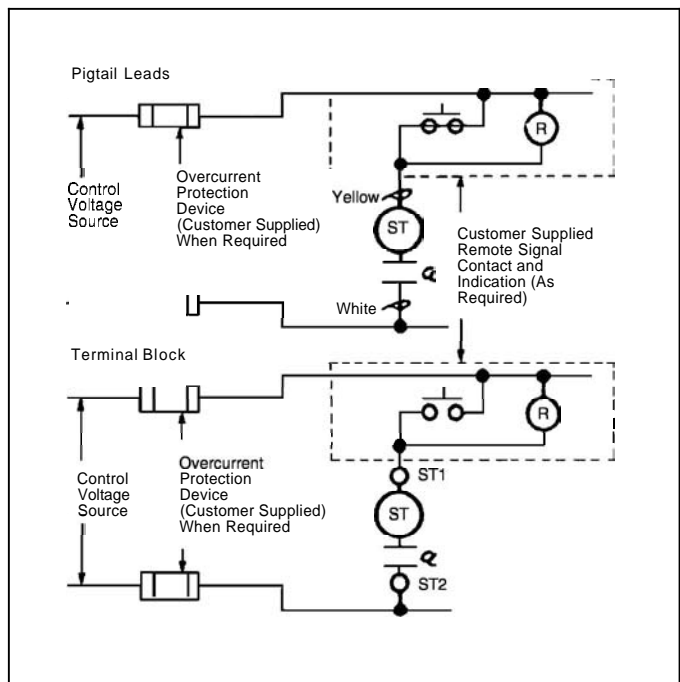

Figure 2-7 Low Energy Shunt Trip Connection Diagram.
- 2-15. Connect LEST to ground fault detection circuit to be monitored (Figure 2-7). Yellow lead is positive.